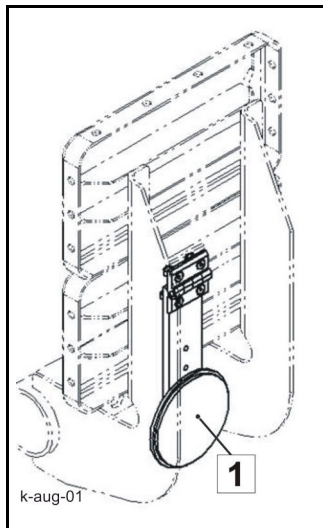

Fig. 52 Reflector
- Check the position of the rear reflector (1) (Fig. 52 Reflector).